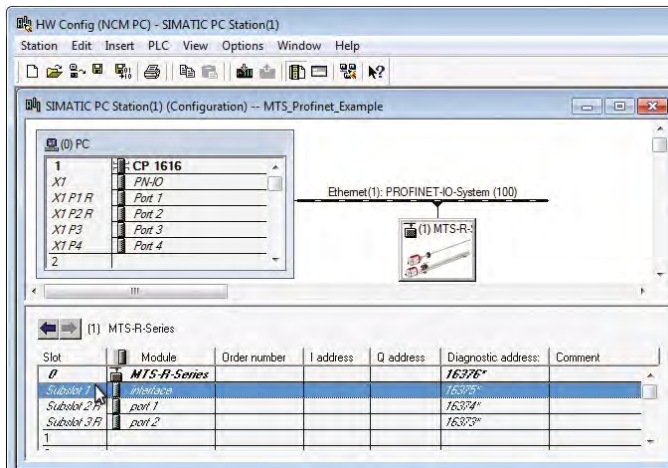

Fig. 66: HW Config (source: Siemens)
1. Double-click Slot "0" → Subslot "1" (Interface) (Fig. 66).